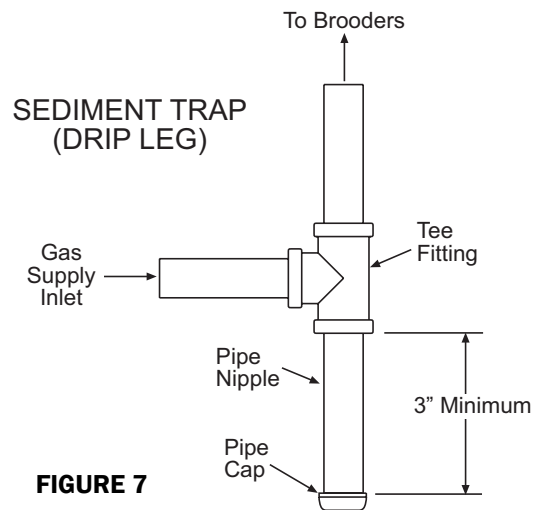

FIGURE 7
5. It is strongly recommended that a field installed manual shut-off valve be installed in the gas piping to each brooder. The shut off valve is included with the Quick Connect hose kit PN 30522250. This will allow service of individual brooders without having to shut down the entire gas supply system. When installing the gas line, it is recommended to connect a sediment trap (see figure 7) in the gas line at a point before the gas line enters the house. This trap or "drip leg" acts to trap impurities and water that can condense out of the gas. It helps to keep impurities from entering the appliance and causing potential damage to gas valves, etc. Periodically remove the cap from the drip leg and drain any accumulation of dirt and/or water.